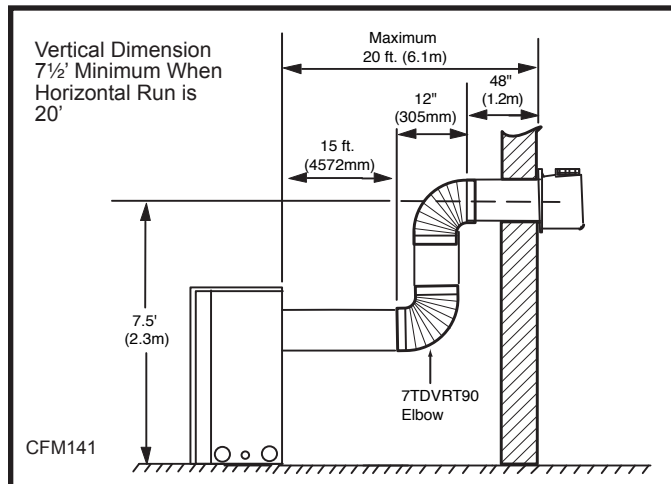

Fig. 23 Maximum number of 90° elbows is three (3).
- The maximum horizontal vent run is 20 ft. (6.1 m) when the vertical vent rise is 7½ ft. (2.3 m). (Fig. 23)
- The maximum number of 90° elbows per side wall installation is three (3).